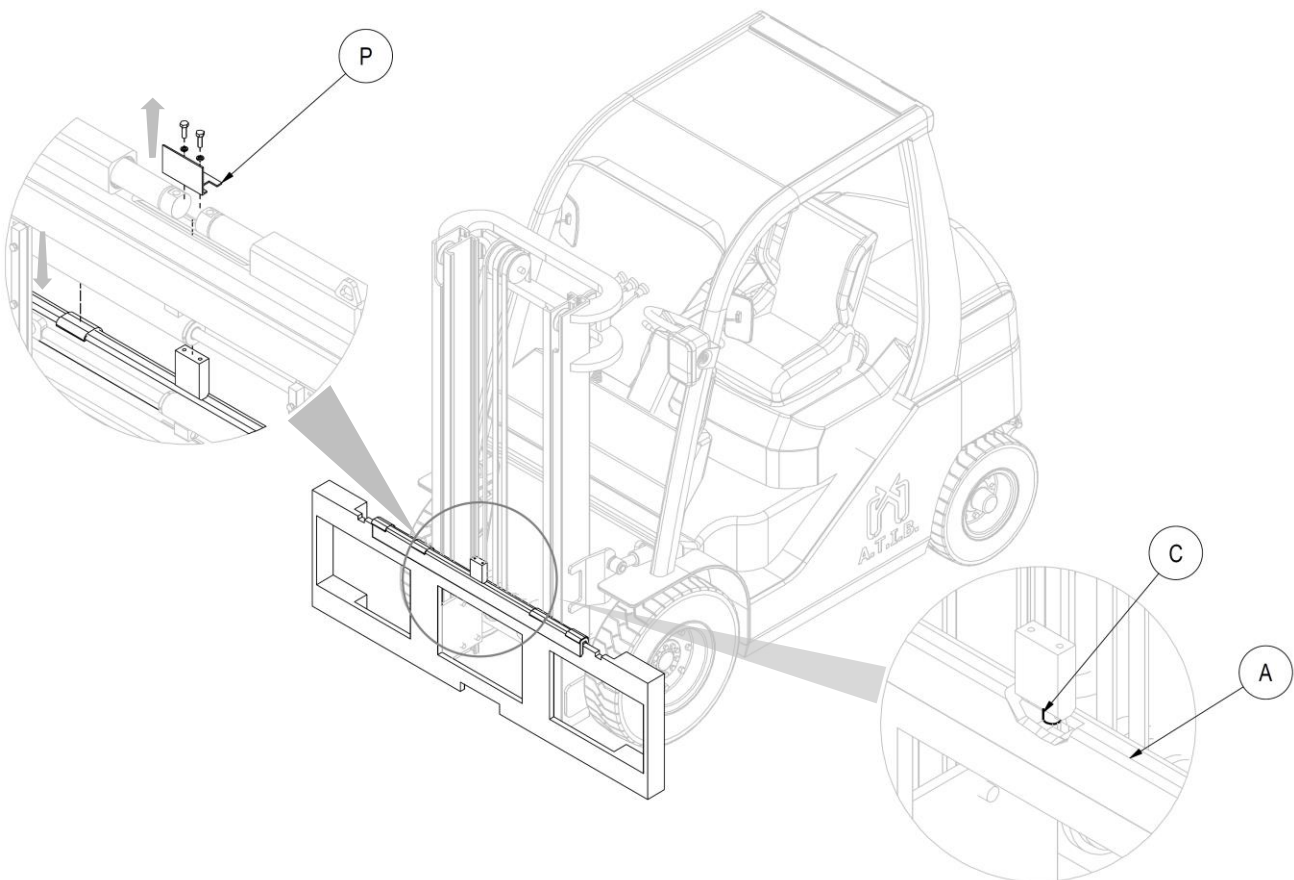

Figure 5
4. After removing the “protection bracket” (P) with its bolts, manually obtain the dual coupling A (with its sliding bushes), and position it on the upper profile of the fork carriage, taking care to fit the centring pin C into the central notch of the fork carriage (see Figure 5).